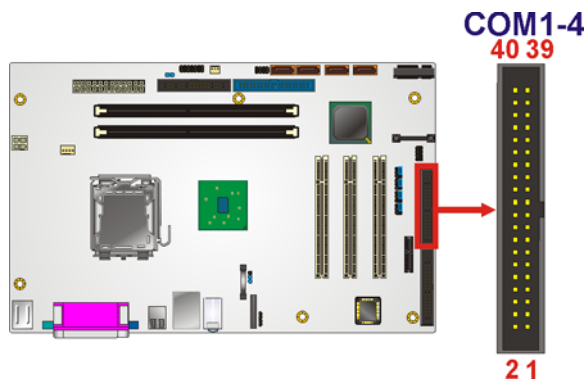

Figure 4-13: Serial Port Connector 1 Location
- CN Location:** See **Figure 4-13**